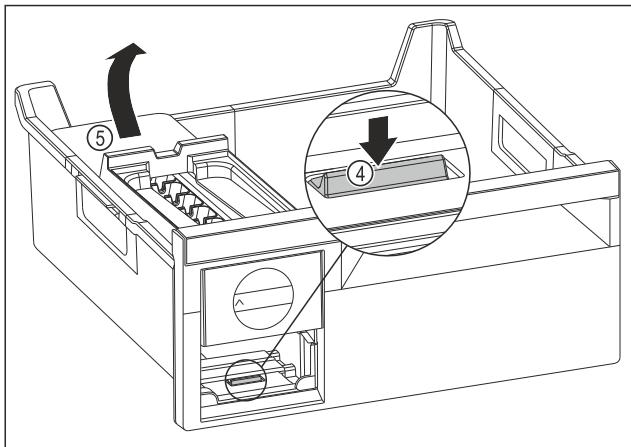

Fig. 86
- ▶ Removing the EasyTwist-Ice body: Use your finger to push the tab Fig. 86 (4) down and use your other hand to lift the EasyTwist-Ice body Fig. 86 (5) from behind at the same time.